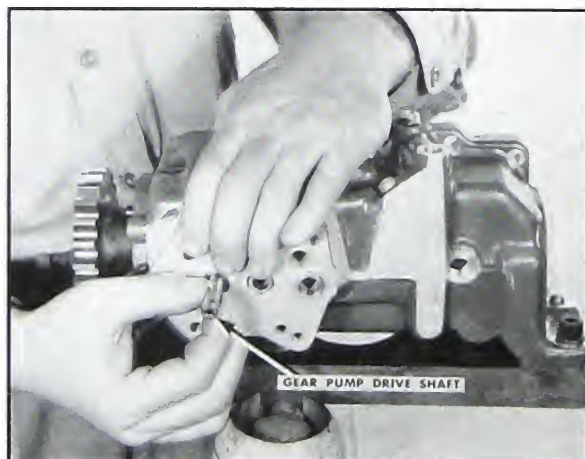

Fig. 5-290. Check back lash
6. Assemble snap ring to the housing to secure the ball bearing. Replace any spacers removed and press on the gear pump driving gear. Assemble cover and drive shaft assembly to main housing and check back lash. Fig. 5-290. Back lash should be .005/.004. Add additional spacers if required. Pull out on shaft while checking.